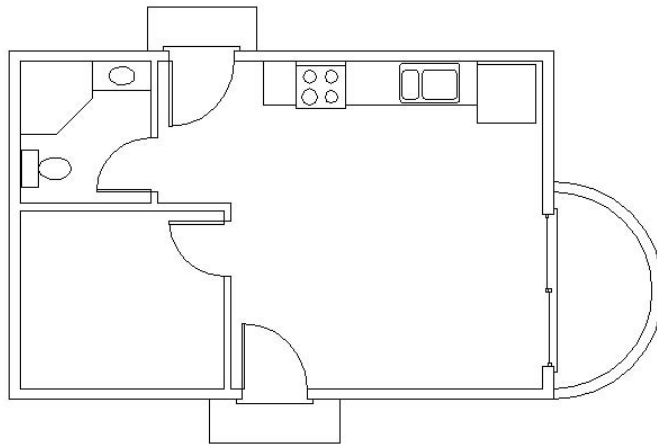

FIGURE 5.30: The completed floor plan zoomed and panned to fill the screen
11. Before you save this drawing, use the Pan Realtime and Zoom Realtime commands to zoom out and pan your drawing until the whole floor plan fills the drawing area, except for a thin border around the outside of the plan (see Figure 5.30). Save this drawing as Cabin05b.